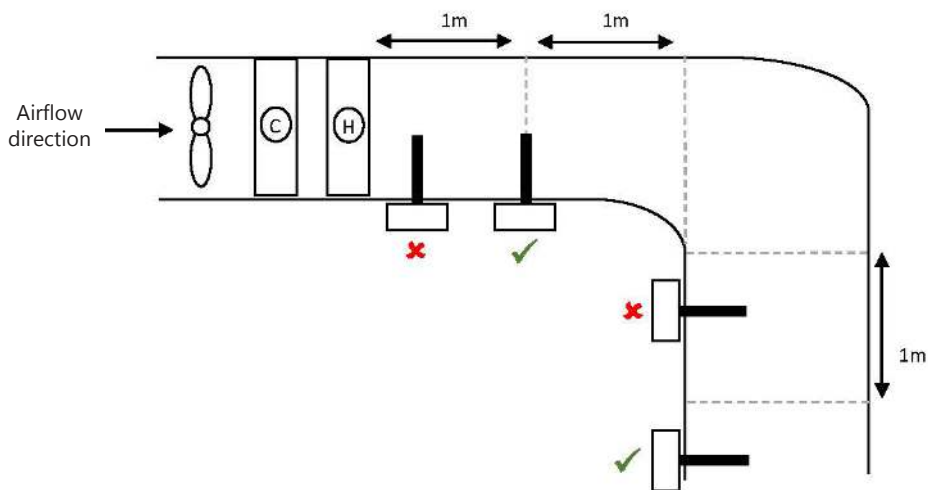

Fig 2.0
- Ensure the sensor is installed in the correct orientation and location. See Fig 2.0.